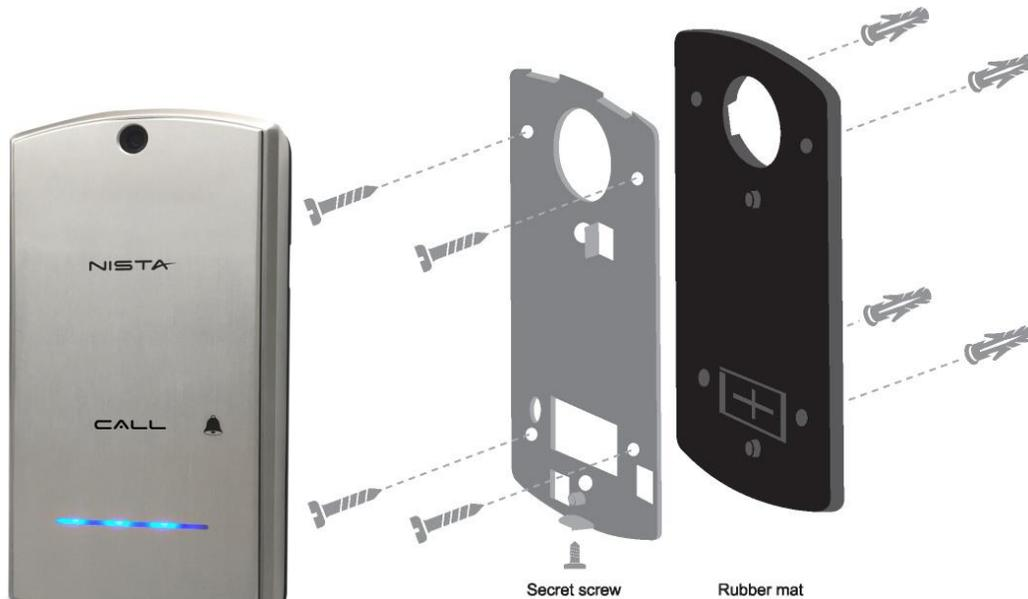

Figure 3-1 Door Phone wall installation
3. Place the rubber membrane on the wall and then metal unit base using the provided wall screws.( See Figure 3-1)